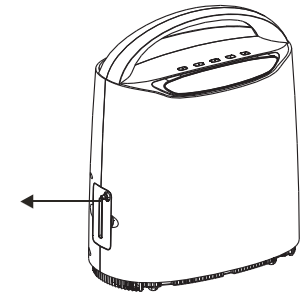

Figure 6
- ▶ Pull out the humidifier as the direction in Figure 6, remove the rubber stopper, then fill the bottle with pure water (or distilled water) to the level indicated by the manufacturer.(Figure 6)